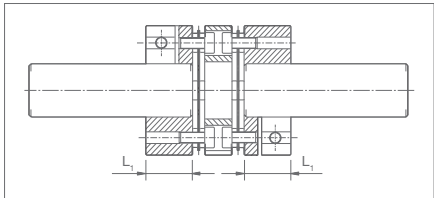

Figure 2
- 3. Please also ensure that both shaft shanks are inserted fully into hub section L1 (Figure 2 - please refer to the catalogue specifications for details).